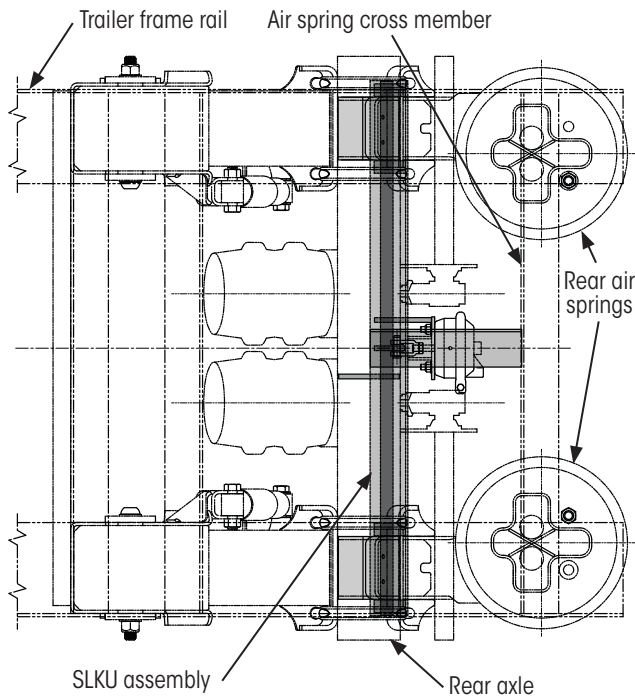
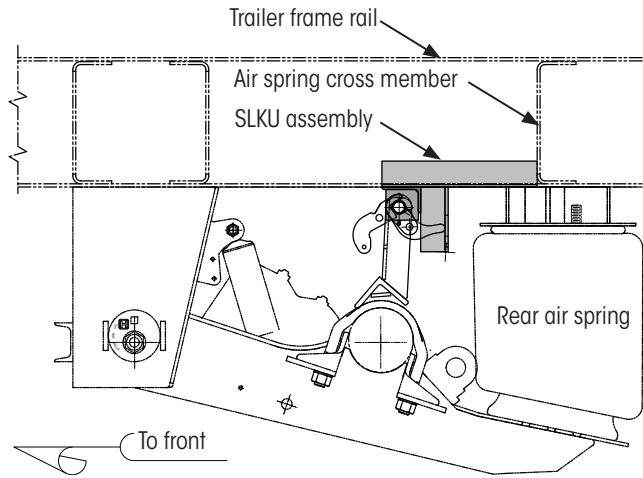

Figure 54: SLKU assembly top view
Figure 55: SLKU assembly mounting position
1. **Position** the SLKU assembly above the rear axle and up against the bottom side of the trailer frame rail on each side as shown in Figure 54.
2. **Locate** the crossmember nearest the rear air spring (Figure 54 and Figure 55).
3. **Position** the back edge of the SLKU assembly to the rear air spring crossmember as shown in Figure 55.